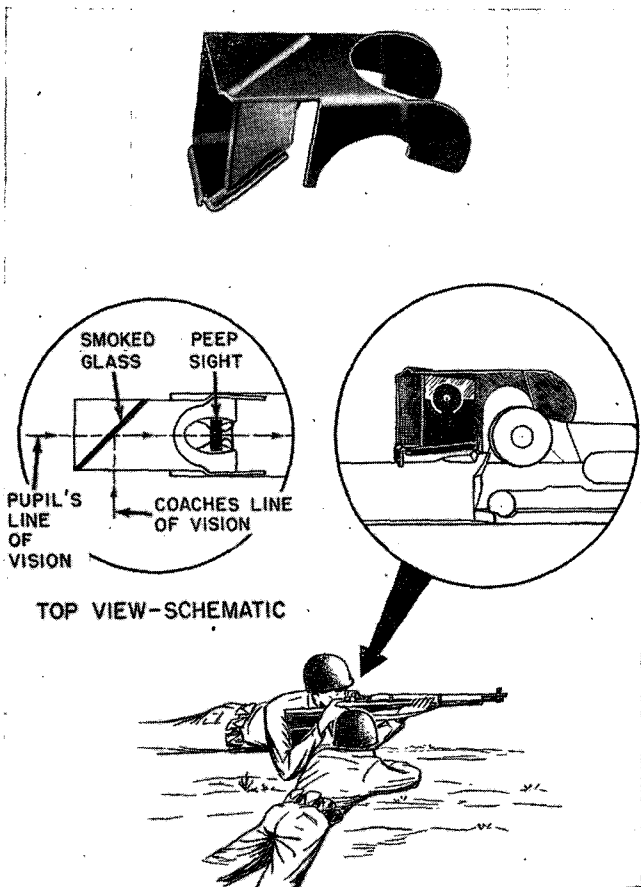

Figure 57. M2 aiming device.
h. The M2 aiming device (fig. 57) is an instructional aid that allows the coach to positively check the pupil's sight picture during preparatory marksmanship training and range practice. As the coach looks into the aiming device, he sees reflected on the glass an image of the sight picture as the rifleman sees it. This allows the coach to check on those men who do not hold their breath properly, and it enables him to help the inexperienced rifleman to obtain the correct sight picture. The device is attached by fitting the two extensions over the rear sight.